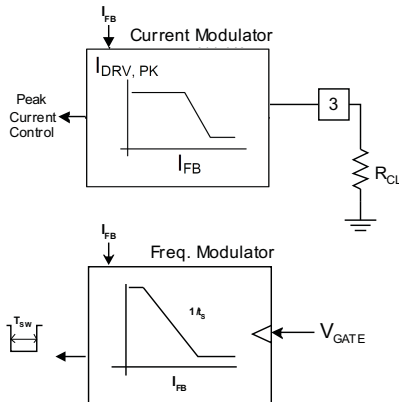
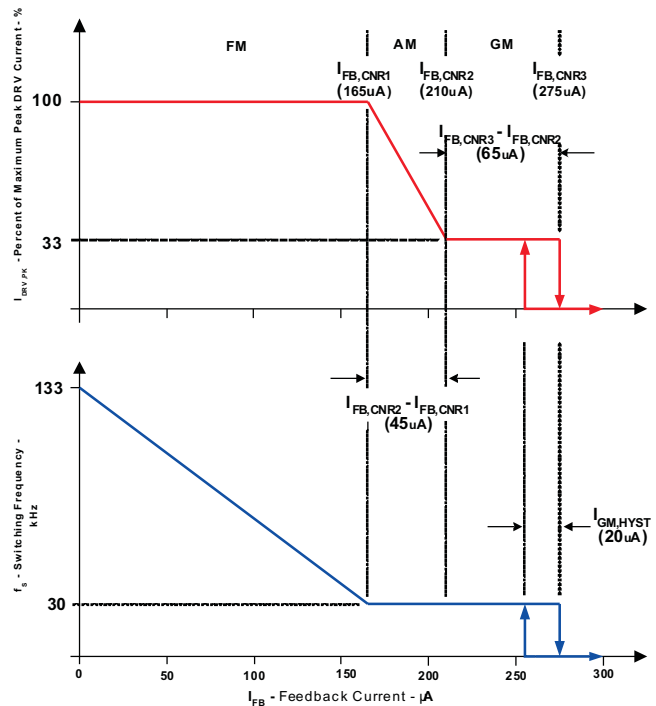

Figure 25. Modulation Control Blocks
Figure 26. Control Diagram with Operating Modes
Under normal operating conditions, the FB current commands the operating mode of the UCC28610, as shown in Figure 25 and Figure 26. The FB current commands the UCC28610 to operate the converter in one of three modes: Frequency Modulation (FM) mode, Amplitude Modulation (AM) mode, and Green Mode (GM).
The converter operates in AM mode at moderate power levels (2.5% to 22% of the peak regulated power). The FB current regulates the output voltage by modulating the amplitude of the peak HV MOSFET current from 33% to 100% of the maximum programmed value while the switching frequency is fixed at approximately 30 kHz. The UCC28610 modulates the voltage on the CL pin from 3 V to 1 V to vary the commanded peak current, as shown in Figure 25 and Figure 26.